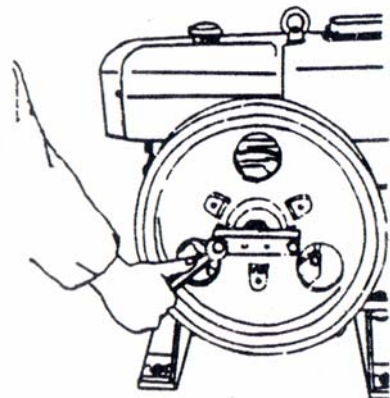
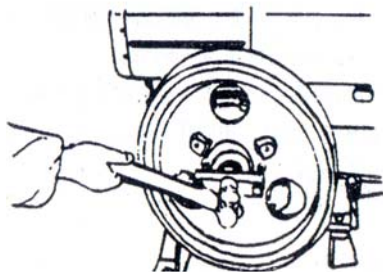

Fig. 3 Removing the flywheel by means of the puller
Fig. 4 Knocking the center of the bridge of the puller by means of a hammer.
4. Pull -out the flywheel by means of the puller. A hammer may be used to knock the center of the bridge of the puller if the flywheel is difficult to pull out (Fig. 3 , Fig. 4).